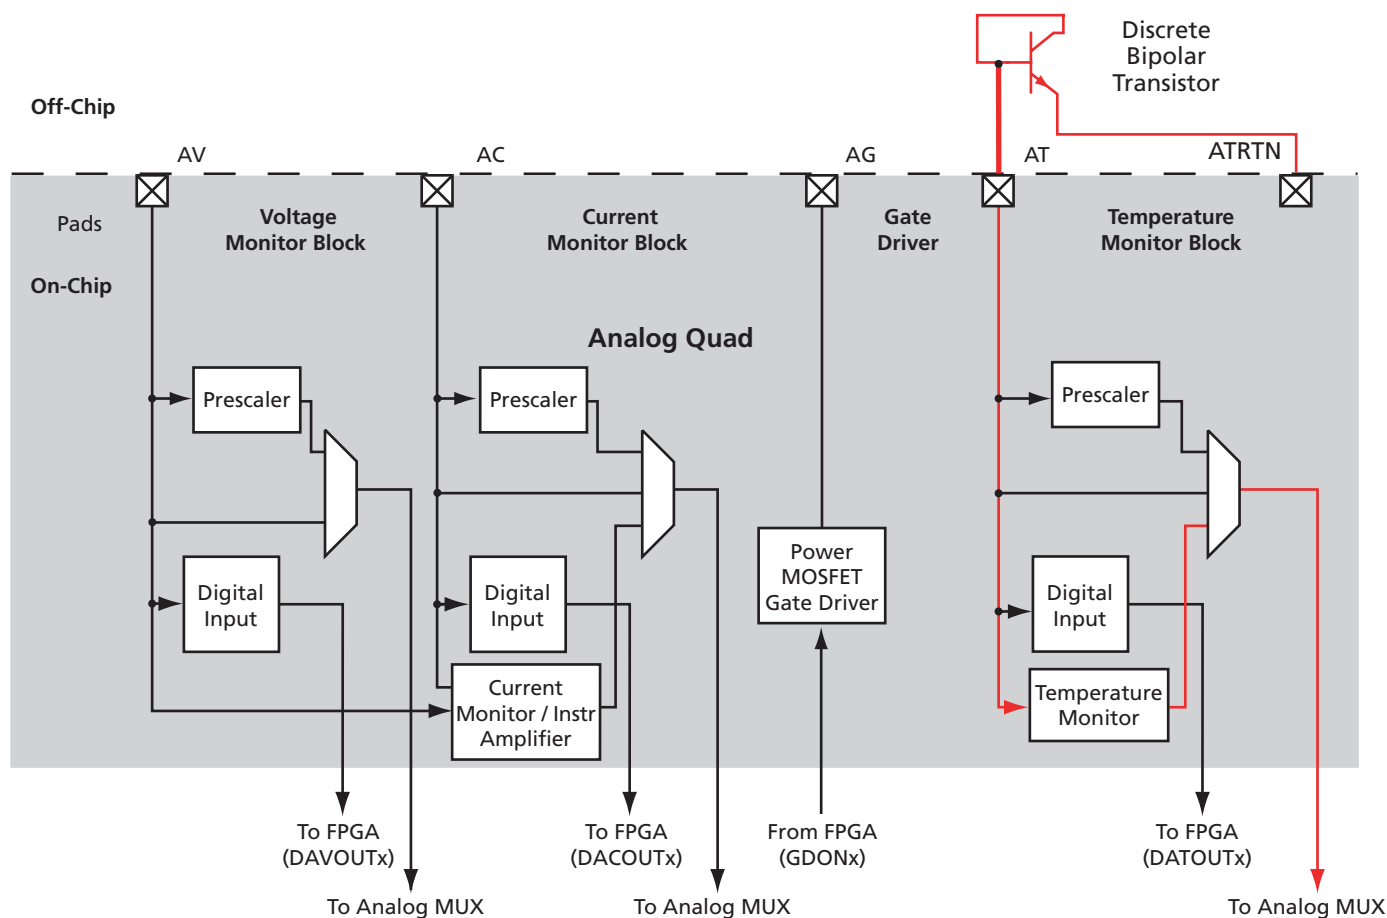

Figure 2-73 • Temperature Monitor Quad
The final pin in the Analog Quad is the Analog Temperature (AT) pin. The AT pin is used to implement an accurate temperature monitor in conjunction with an external diode-connected bipolar transistor (Figure 2-73). For improved temperature measurement accuracy, it is important to use the ATRTN pin for the return path of the current sourced by the AT pin. Each ATRTN pin is shared